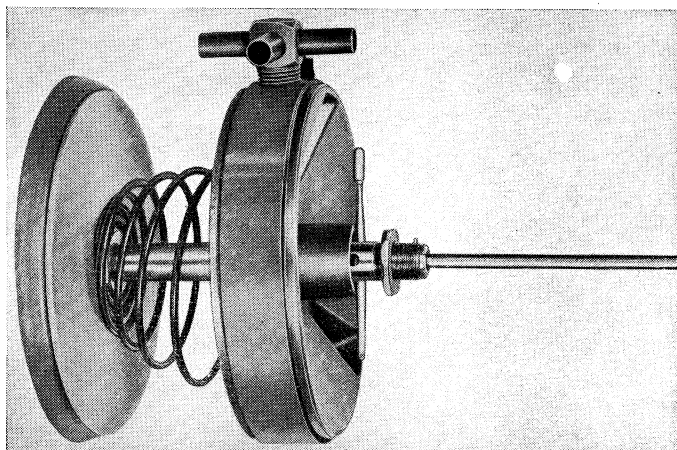

Fig. 10 Center plate held by pin and rear piston removed
8. Compress power cylinder release spring and hold it compressed by inserting a pin through the port holes in the piston rods, Fig. 10. Hold spring compressed in this manner while disassembling rear piston.
10. Take out retainer pin from piston rod, Fig. 10, which allows push rod to be removed.
11. Remove temporary pin from port holes, Fig. 10, and slip center plate and release spring off piston rod.
28. Again place a pin in port holes as shown in Fig. 10 to temporarily hold the center plate out of the way so the rear piston can be assembled.
31. Place push rod in position and secure with retaining pin, Fig. 10.